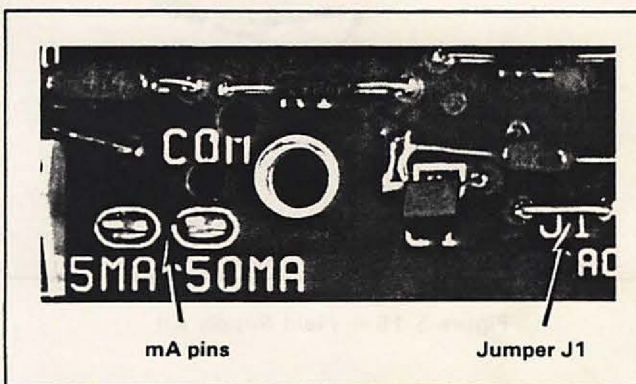

Figure 5.14 — Jumper J1, mA Pins
**NOTE:** If the Operator Control Station contains an AUTO/MANUAL selector switch, it is necessary to remove jumper J1 from the Instrument Interface Module and J4 on the Regulator Module. (Refer to Figures 5.14 and 6.4.) Do this before placing the Module on the Regulator Module.
**Step 1** — Determine whether the maximum input signal is between 0 to 5 mA or 5 to 50 mA. Locate the black pig-tail jumper on the Module. (Refer to Figure 5.14.) Carefully place it on the directly corresponding pin, both of which are clearly marked.
**Step 2** — Connect the black pig-tail jumper on the Interface Module to the 50 mA pin. (Refer to Figure 5.14.)